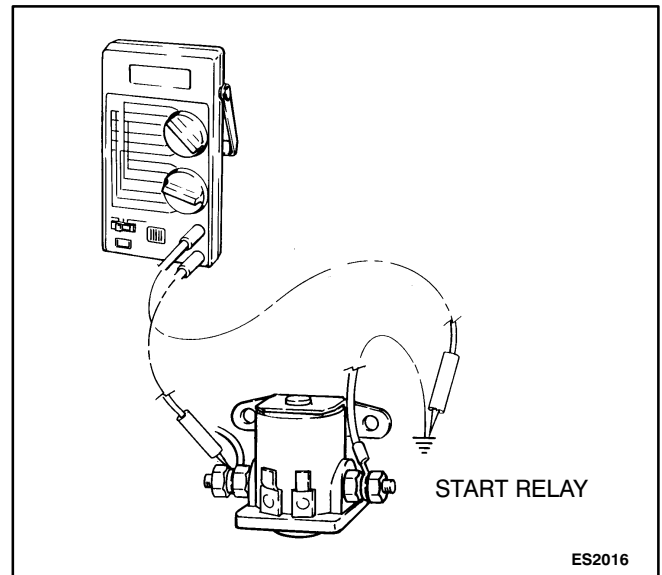

FIGURE 8-23. STARTER VOLTAGE CHECK
1. Connect a voltmeter between the output terminal on the start relay (opposite the BAT terminal with the starter motor lead connected) and ground. See Figure 8-23.